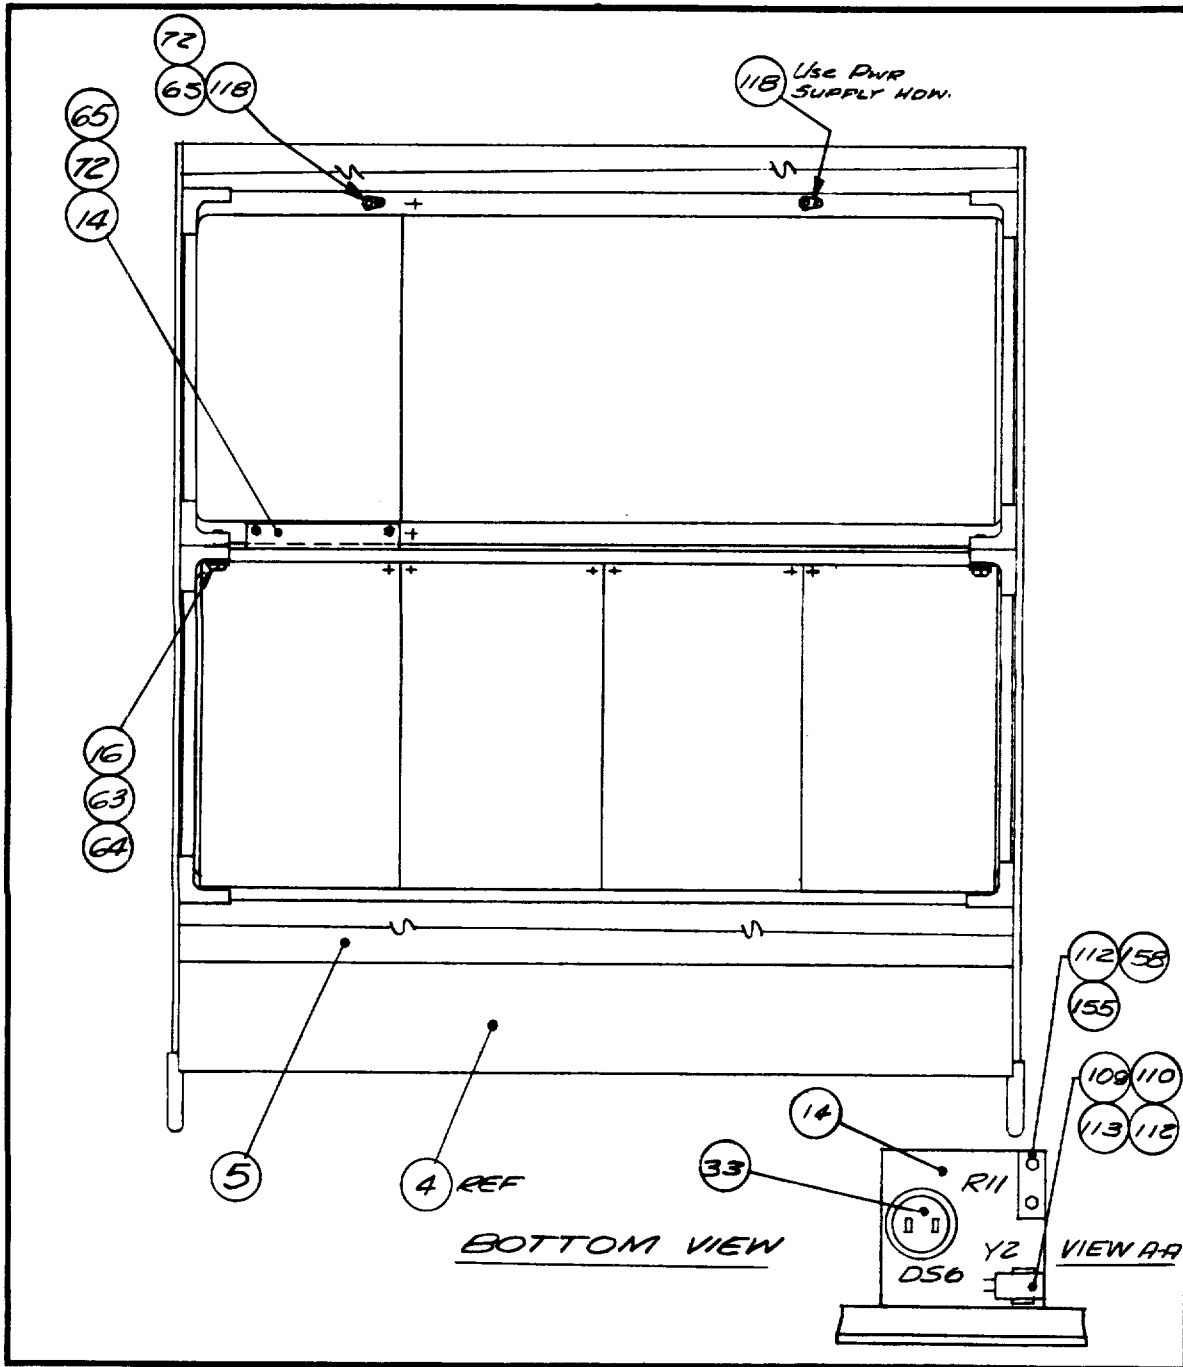

Figure 6-6. Data Analyzer Assembly, Bottom View.
- a. The synchronous clock center frequency is adjusted by control R11 (fig. 6-6).